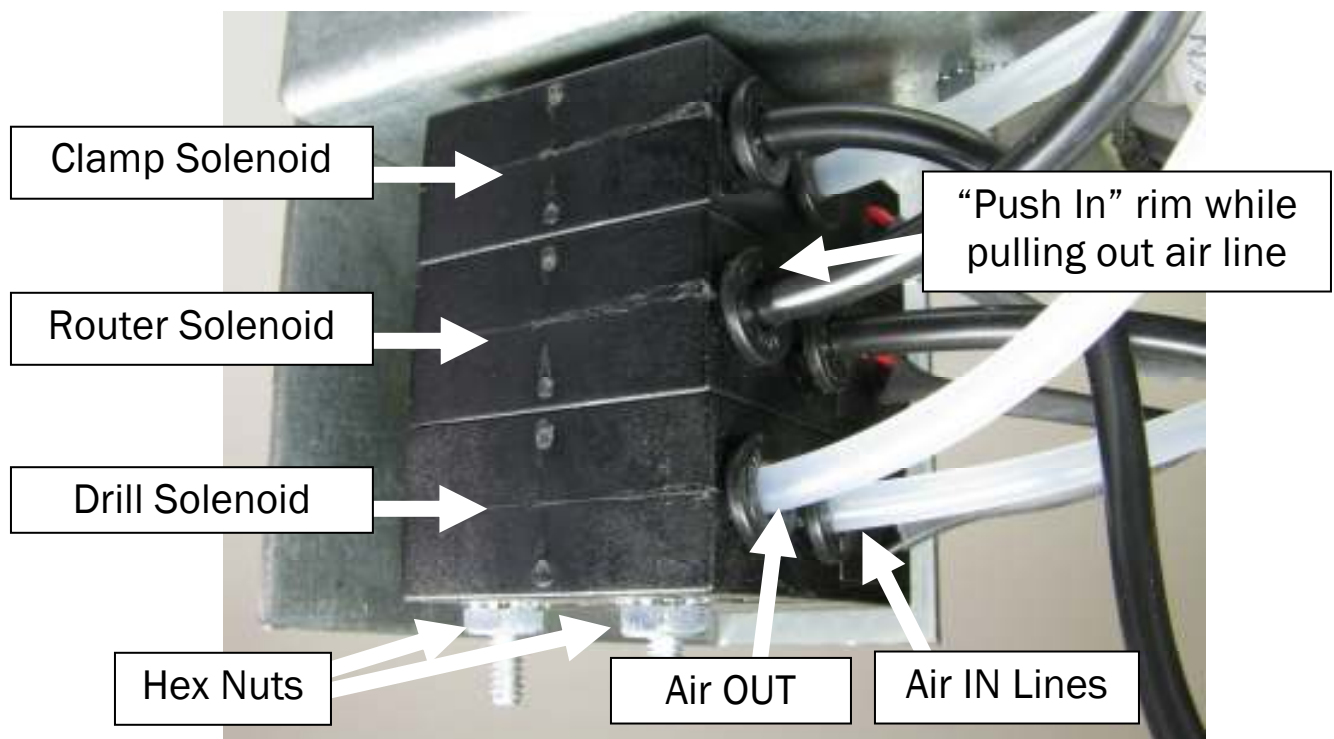

Figure 34
4. Label the three solenoids and remove the two hex nuts and lock washers that hold the solenoids together. **See fig. 34**